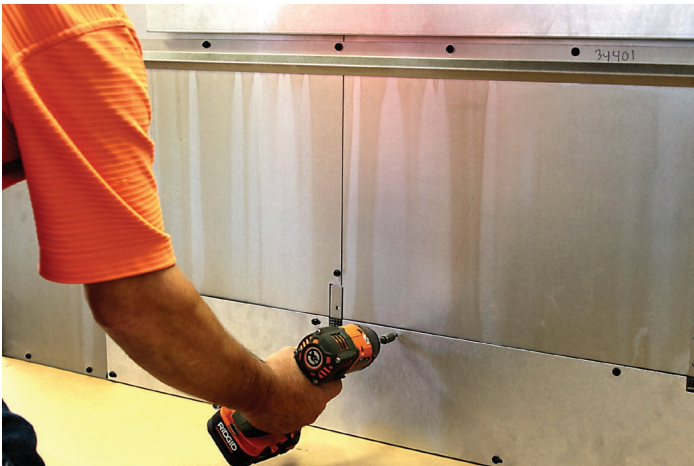

Figure 1
2. Using a 5/16 inch hex drive, remove the 11 screws holding rear blower access cover plate, then lay the access plate on the floor. **See Figure 1.**
11. Re-attach the Blower Access Panel with the 11 screws removed in step 2. **See Figure 1.**